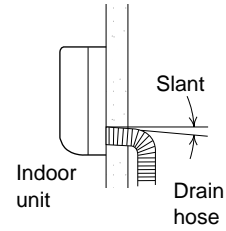

Fig. 28
- a) The drain hose should be slanted downward to the outdoors. (Fig. 28)